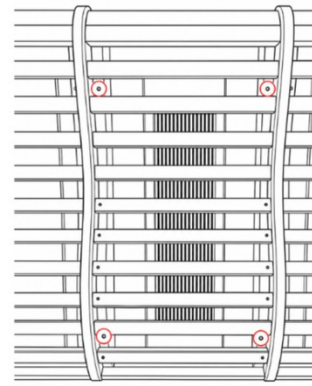

Figure 19. Backrest mounting: plug in, tuck the cable, secure at four points.
- Drive the backrest screws (Screw D) with the power drill through the backrest's four pre-drilled holes, two upper and two lower, directly into the wall (Figure 19). The backrests are pre-drilled; the walls are not.